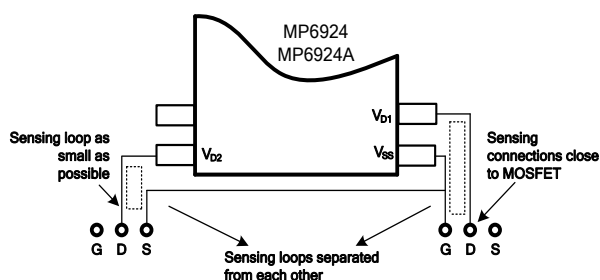

Figure 8: Sensing for V_D/V_S
3. Make the sensing loop as small as possible (see Figure 8).